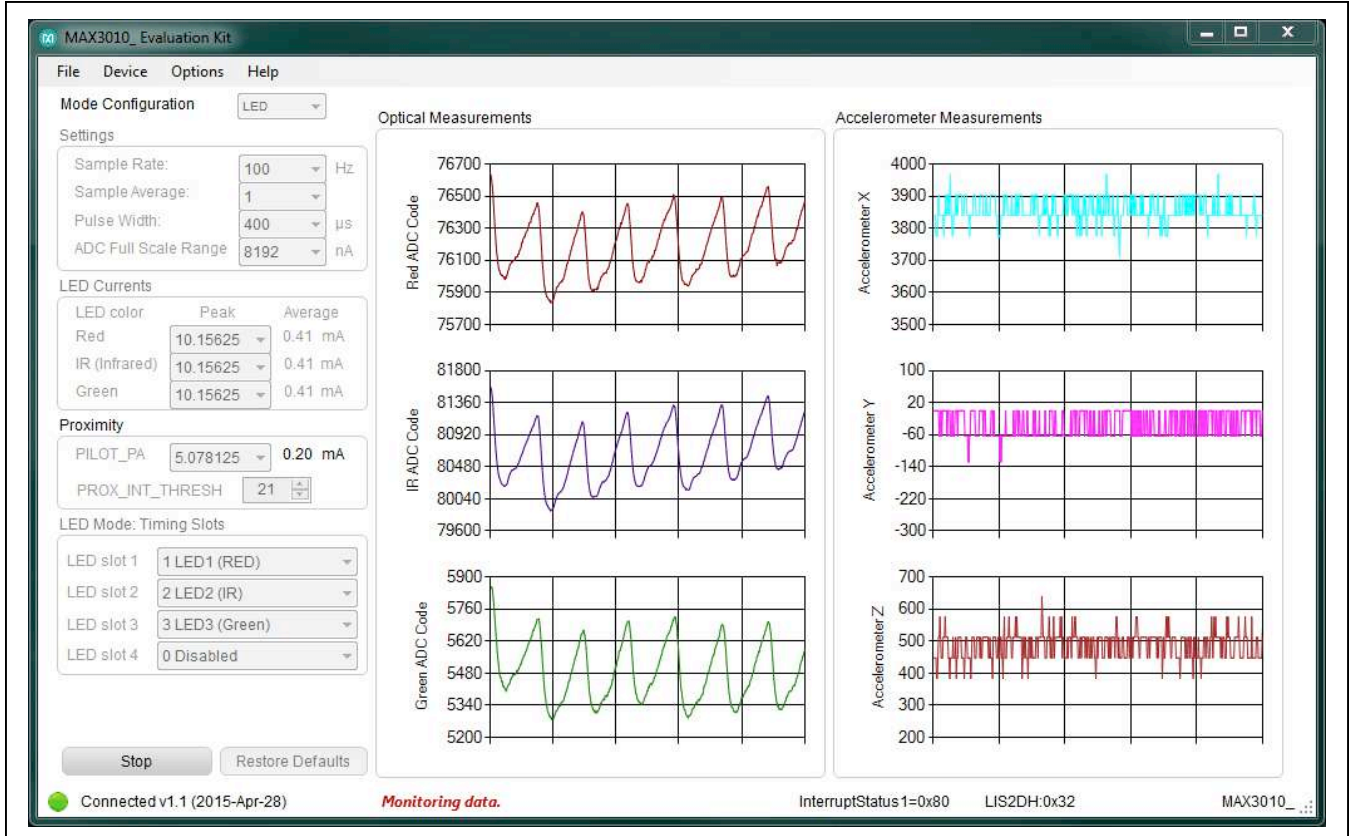
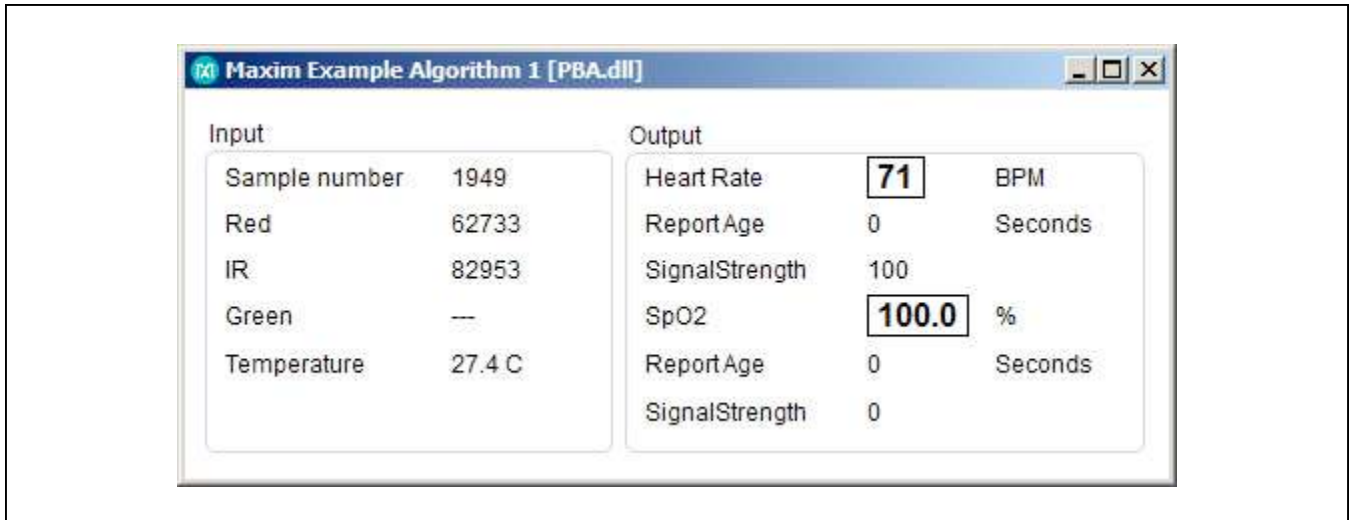
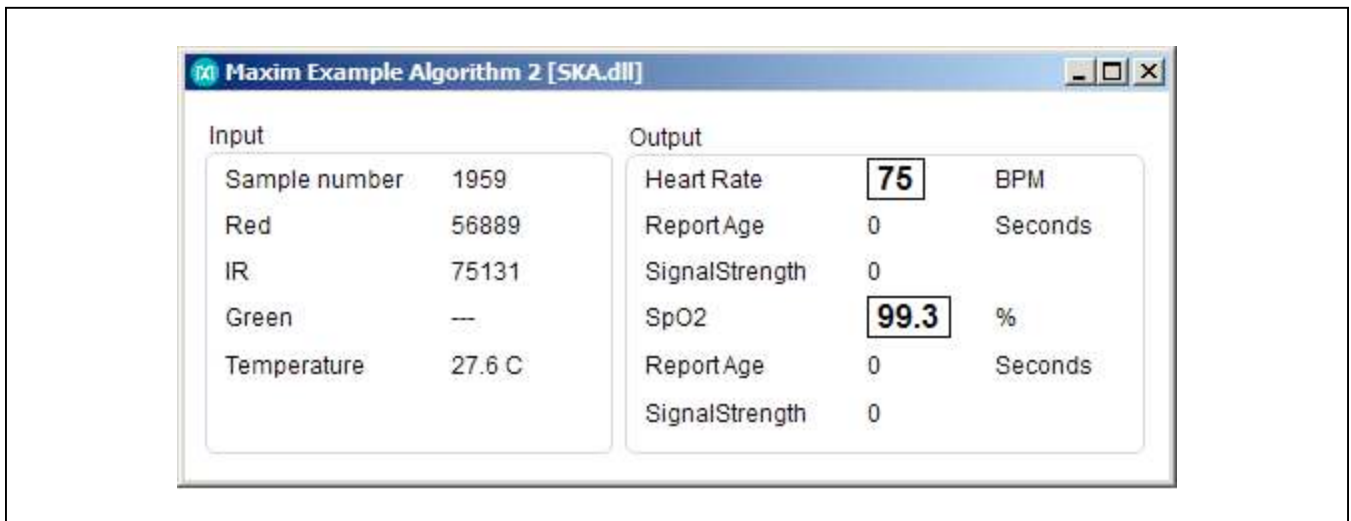

Figure 2. MAX30101 EV Kit Main Window (Sampling Data)
Figure 3. Maxim Example Algorithm 1 Window
Figure 4. Maxim Example Algorithm 2 Window
- 7) Place your finger in front of the MAX30101 (U4) of the EV kit and observe the **Measurement** graphs. See Figure 2. Example algorithm 1 and 2 are shown in separate windows (Figure 3 and Figure 4).
Figure 3 and Figure 4 are example algorithms to calculate heart rate and SpO2. They are calculated using the raw ADC data from the LEDs.